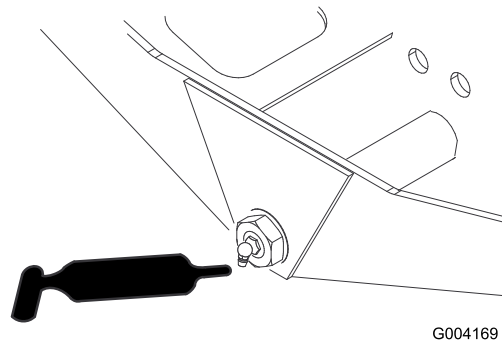

Figure 32
- Axle-steering pivot (1) (Figure 32)